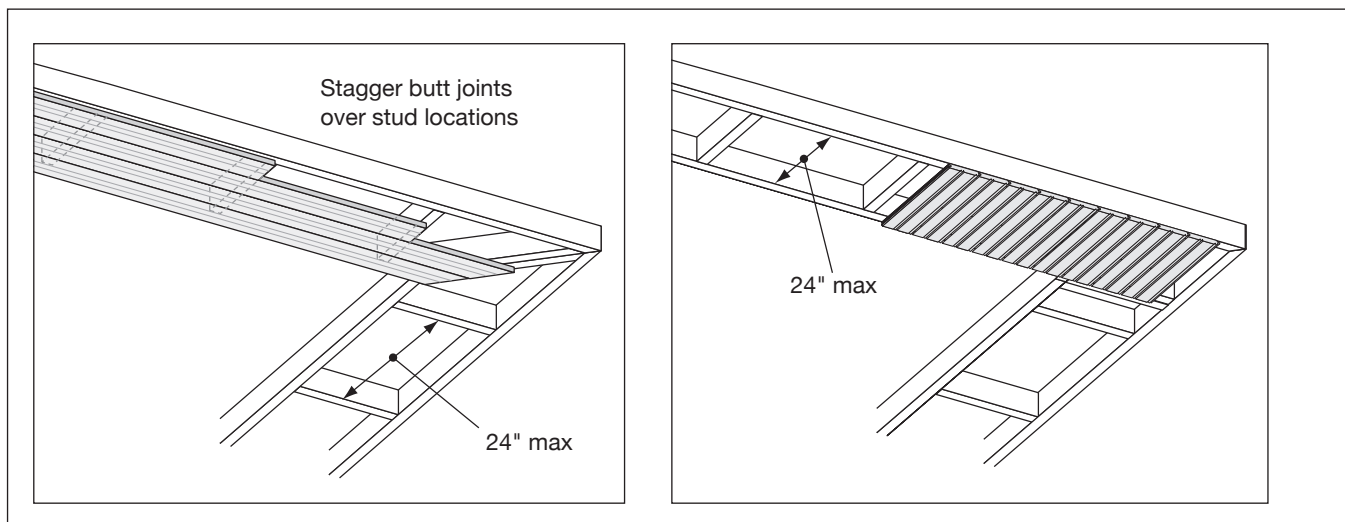

Fig. 46
- In soffit and porch ceiling applications, TruExterior Beadboard must be installed on frame-built soffits with studs spaced 16 inches to 24 inches maximum on center, without a substrate (**Fig. 46**)